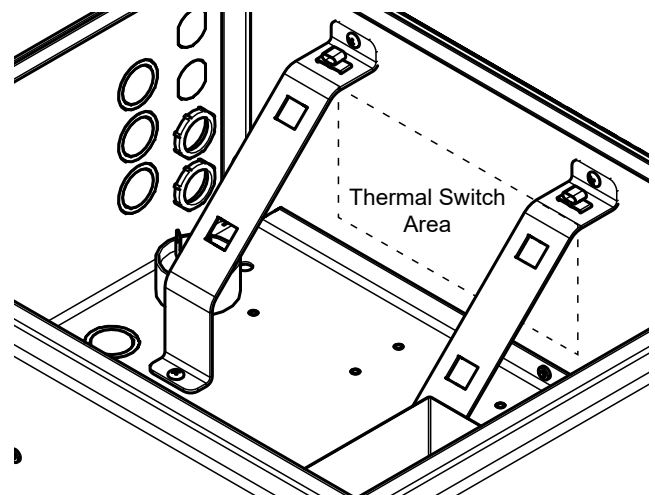

Figure 4. Install Thermal Switch
6. Install the thermal switch in the hole and fasten with two 8-32 x ½ in self-tapping screws (Figure 4).